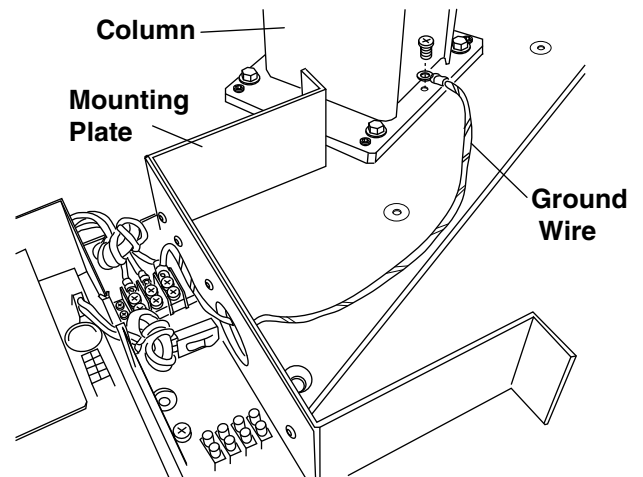

Fig.3-23C Ground Wire Connection (RK Type)
- Take out the green ground wire through the bottom hole on the chassis of main controller and secure it to the base of column with M5 × 8 mm screw. **(Fig 3-23C)**